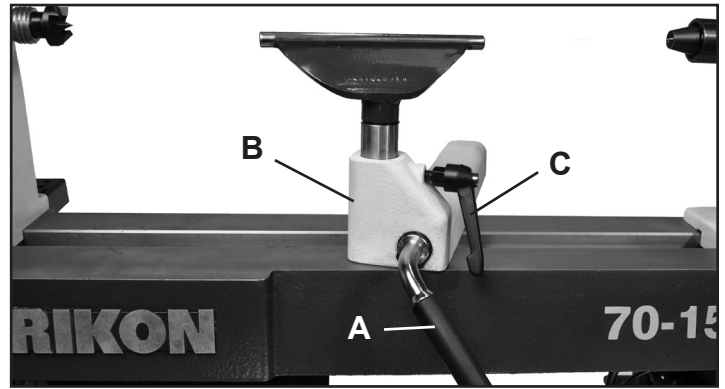

FIG. 4
1. **TOOL REST BODY LOCK HANDLE:** (FIG. 4, A) This cam action lever handle locks the tool rest base (B) down in position on the lathe bed. Unlock handle to position the tool rest in any location along the lathe bed. Tighten the handle when the tool rest is properly located for safe turning of the workpiece. See page 12 for adjusting clamping pressure.
2. **TOOL REST LOCK HANDLE:** (C) Locks the tool rest in position for supporting your tools during turning. Unlock the handle to adjust the tool rest at a specific angle, or height. Tighten handle when properly positioned.